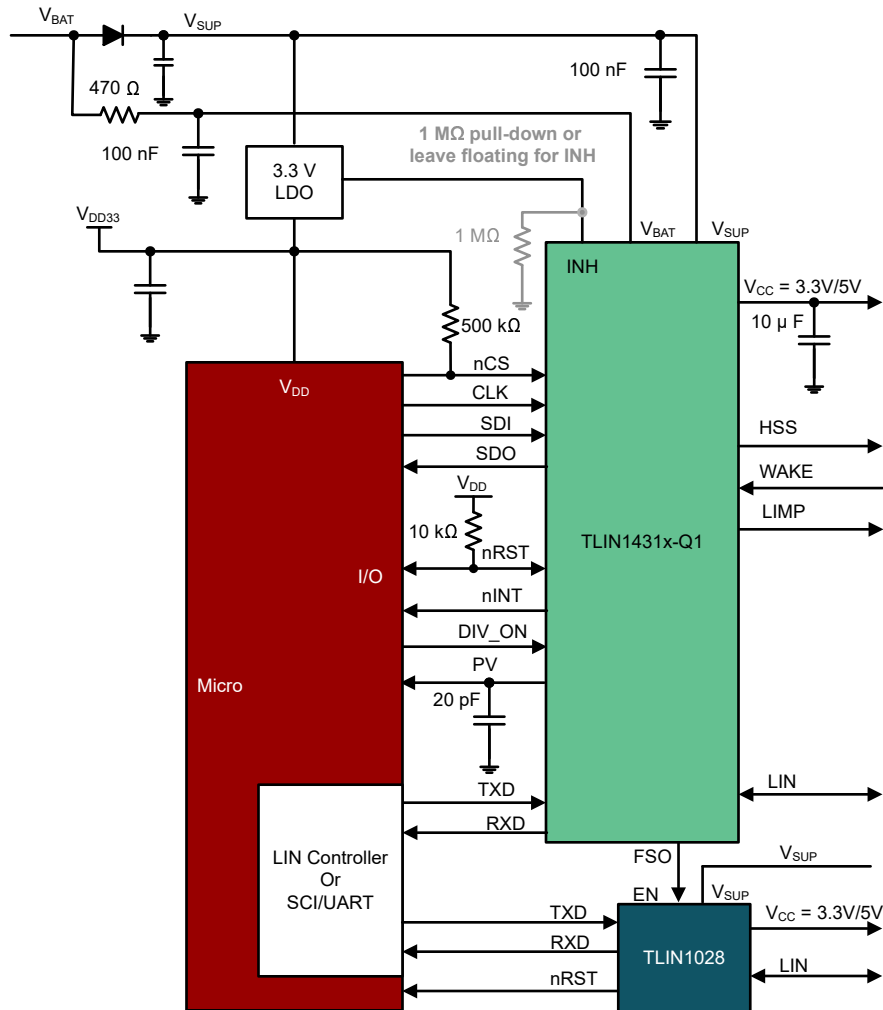

Figure 8-21. Channel Expansion: LIN SBC
- Two LIN transceivers with two LDO outputs by using an eight pin LIN SBC, see Figure 8-21